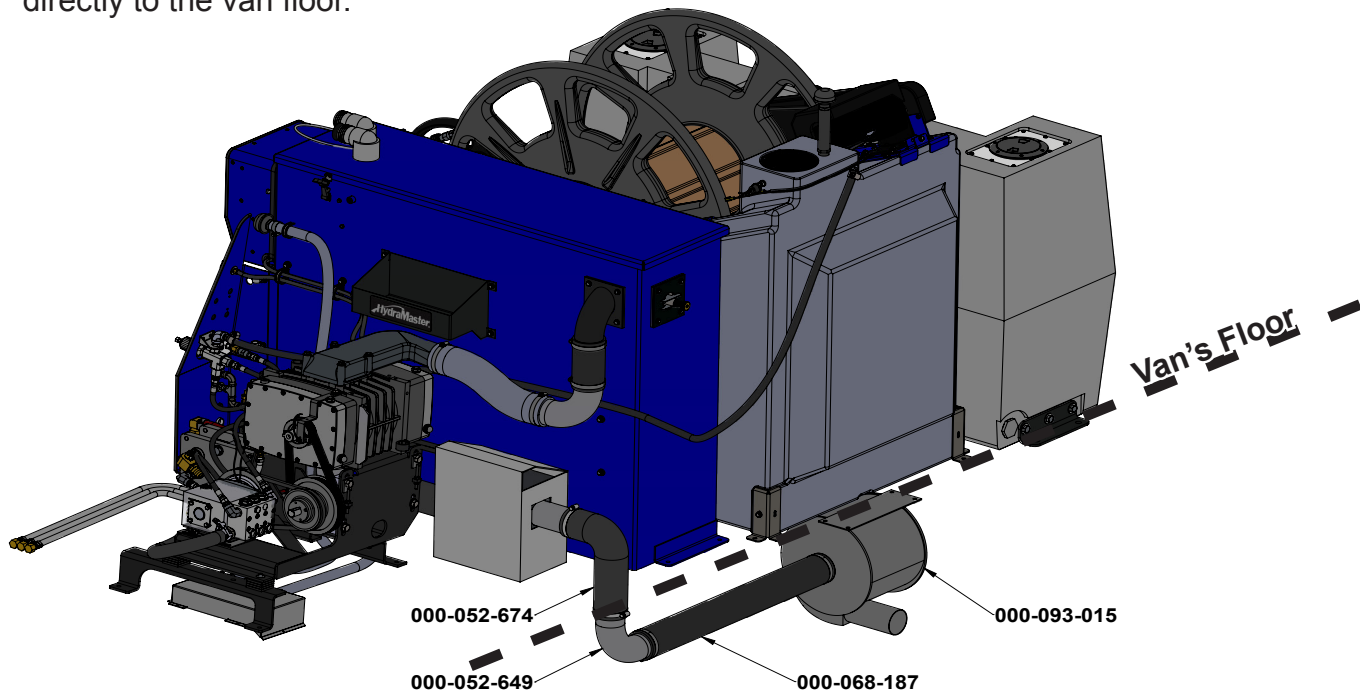

Figure 61. Hose Routings Between Salsa and Silencer
Dry fit the Salsa Heat Exchanger behind the driver's seat location. Mark the location on the van's floor where the 3" diameter rubber hose (P/N 000-052-674) will be inserted (Figure 61).
2. Connect the 3" diameter rubber hose (P/N 000-052-674) on the outlet weldment of the Salsa, and route it through the hole in the van's floor. Secure the hose to the Salsa outlet with a hose clamp (Figure 61).
3. From under the van's floor, slip fit the 3" aluminum elbow (P/N 000-052-649) into the rubber hose protruding through the floor. Secure the elbow to the hose with a hose clamp (Figure 61).
5. Install the 30" hose assembly (P/N 000-068-187) onto the elbow and then install the silencer (P/N 000-093-030) under the van (see Figure 61). Secure with hose clamps. Depending on the van model, the silencer may span the "rib" of the floor or bolt directly to the van floor.